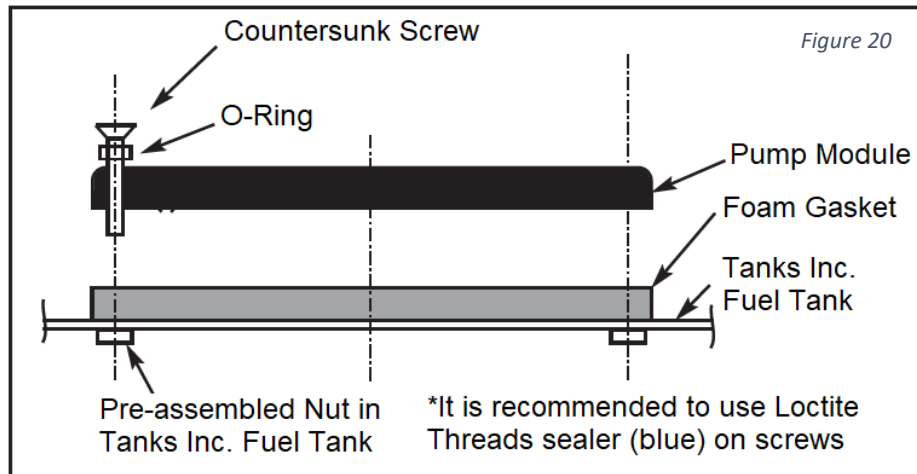

Figure 20
4. Slide the C-Ring into the 2-1/8" diameter hole (Figure 4 & 5) inserting the screws back up through the (6) drilled holes. Then install the Foam Gasket (Item 3) as shown in Figure 6. See Figure 20 on page 9 for proper assembly of these parts.